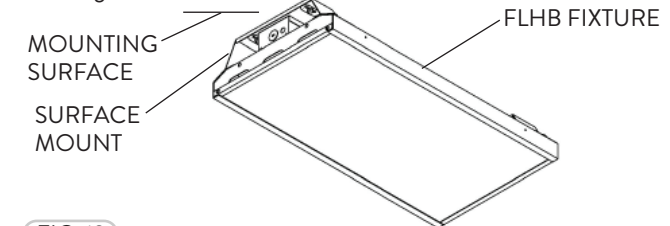

FIG. 12
- 4 This is how the properly surface mounted FLHB Fixture should look (Fig. 12).